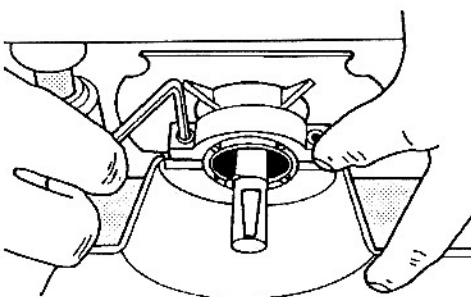

Fig. 39
50. Re-attach the guard clamp. Use a 5/32" Allen wrench to tighten both capscrews, as seen in Fig. 39. Turn one or two turns on one capscrew, then do the same for the other one, until both capscrews are securely tightened.